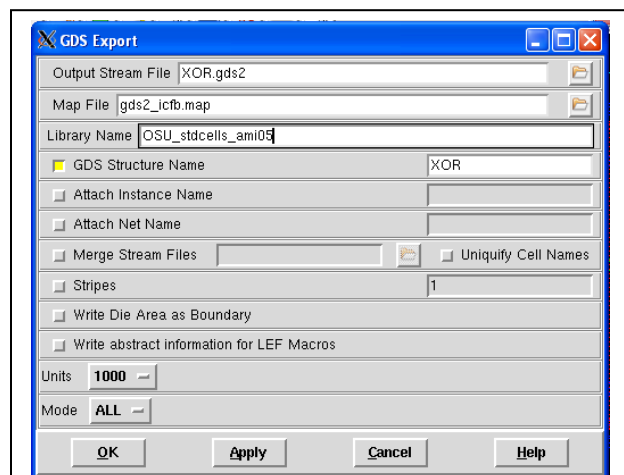

Fig 23: GDS Export dialog
- Verify that the *GDS Export* dialog box appears like Fig 23, and then click **OK** to export the gds file.